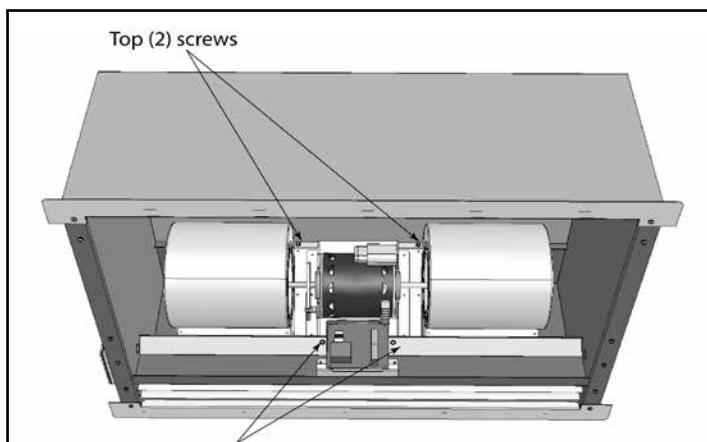

Figure 8
6. Using a 5/16" hex driver, loosen and remove the (4) self drilling screws that hold the blower plate to the frame of the unit. Remove the two screws at the top of the product last, as after they are removed, the module will be free to drop out of the cabinet. **See Figure 8** for location of all screws.